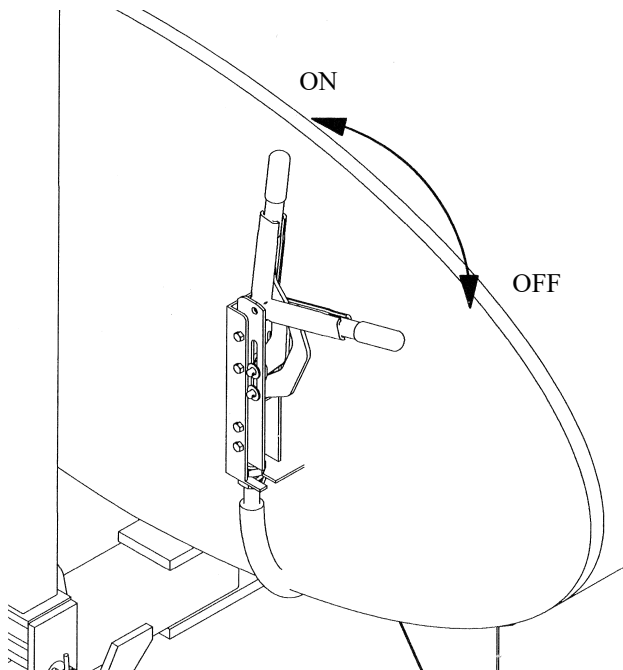

Figure 4-1. Parking Brake Handle
4.5.1 Parking Brake. The parking brake is applied by using the parking brake handle located at the front of the tank assembly. See Figure 4-1.